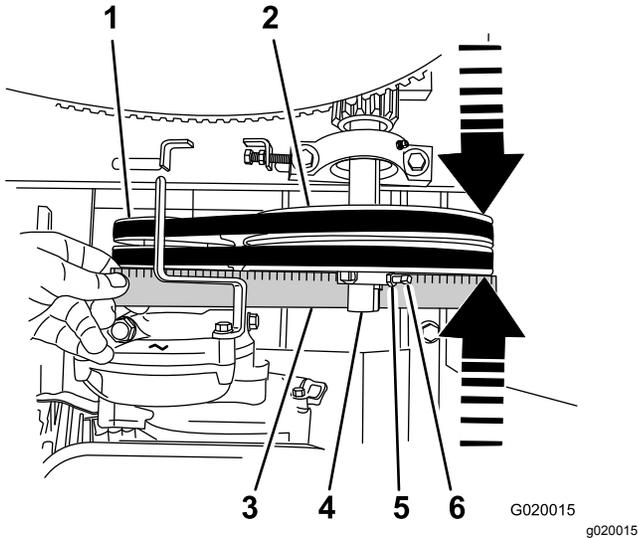

Figure 76
2. Place a straightedge across the face of the engine pulley and the idler pulley (Figure 76).
- B. Loosen the locknuts and setscrews that secure the idler pulley to the idler shaft (Figure 76).
- C. Using a soft-face mallet, tap the idler pulley forward or backward along the idler shaft until the engine pulley and the idler pulley are aligned to the straight edge (Figure 76).
- D. Tighten the setscrews and locknuts that secure the idler pulley to the idler shaft (Figure 76).